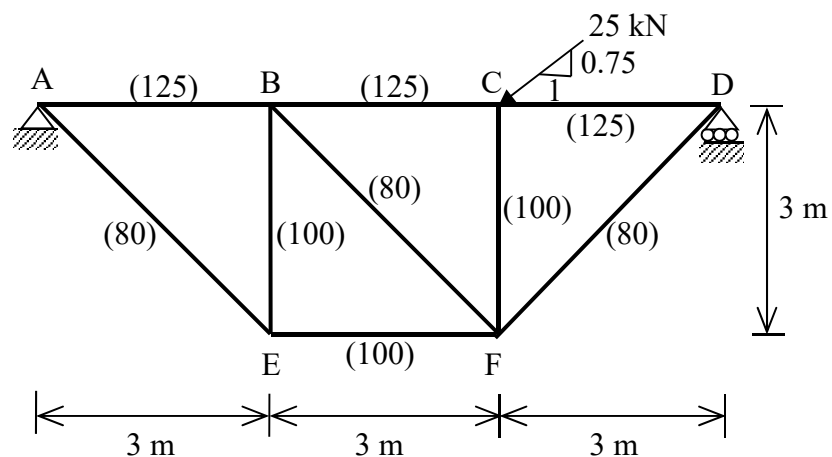

Figure 1/Rajah 1
1. [a] Determine the vertical displacement at point C for the truss shown in **Figure 1**. The cross-sectional area of each member is given in parentheses (mm^2) and the modulus of elasticity is 200 GPa. Use virtual work method.